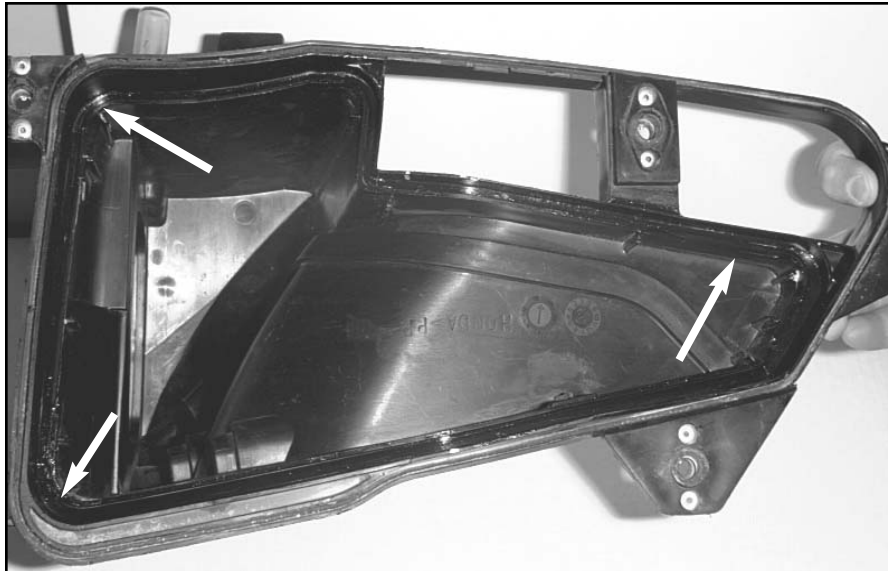

Fig. 1
2. Clean the air filter sealing groove in the air box. (Fig. 1)
3. Using the provided K&N Sealing Grease, apply a thick even layer into the air filter sealing groove. (Fig. 1)